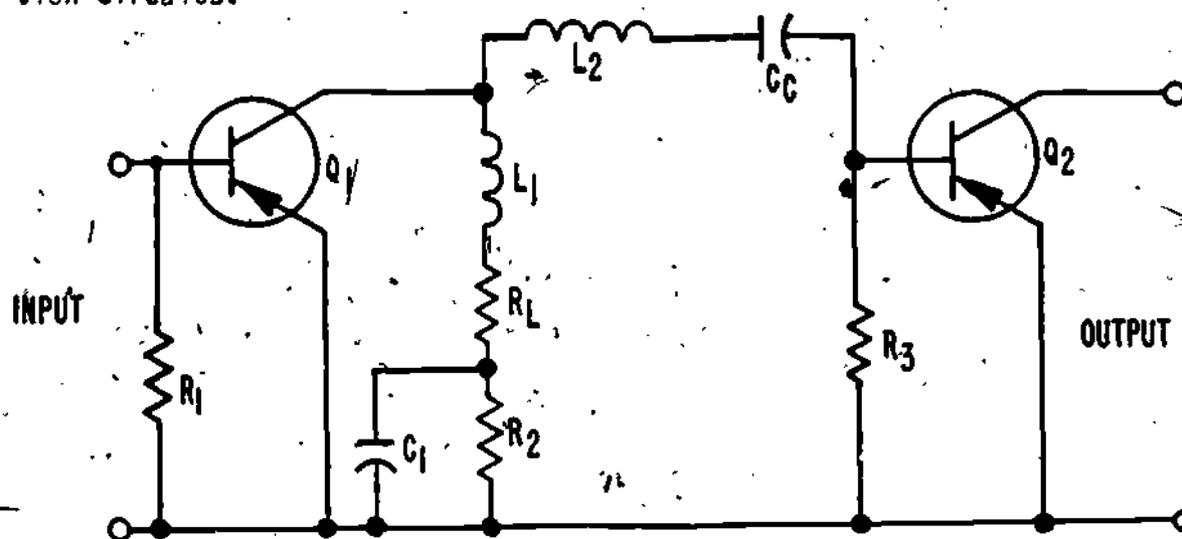

Figure 20
17. You have learned how to improve the frequency response of video amplifiers at low and high frequencies by adding low frequency, shunt, and series-compensation circuits. Figure 20 shows an AC equivalent diagram of a video amplifier which includes all three types of compensation circuits.
In Figure 20, low frequency compensation is provided by components